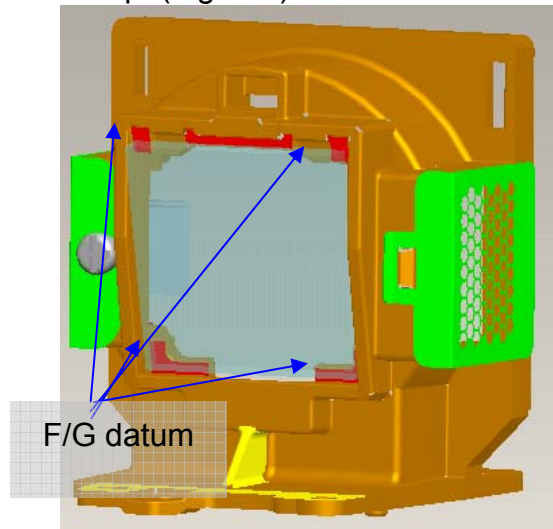

Fig. 1-7
- ii. F/G must be placed on datum surfaces well. (Fig. 1-7)